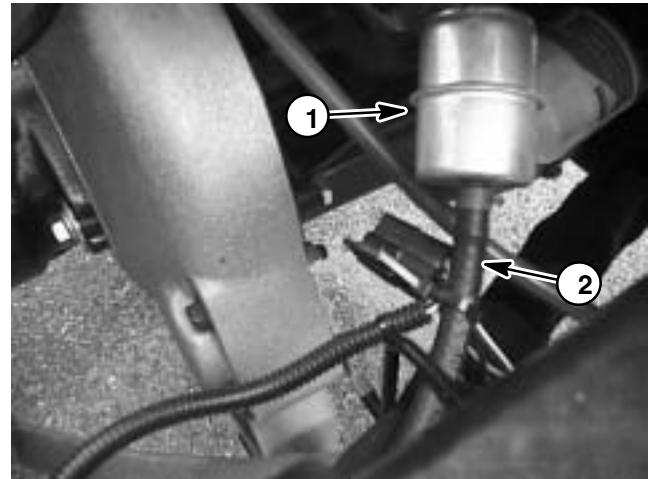

Figure 10
3. Clamp fuel hose between the fuel tank and fuel filter to prevent leakage (Fig. 10). Disconnect fuel hose from the fuel filter.